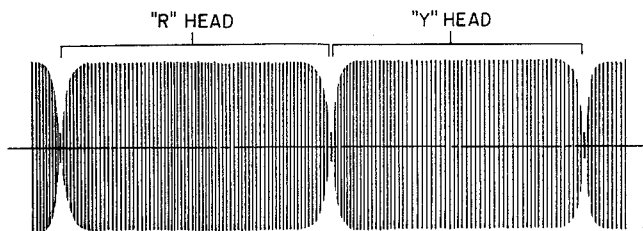

Fig. 1-22 Ideal RF Envelope (Correct Equalization)
(3) Adjusting the Head Assembly for Interchange
- c) Try to maintain an almost square shaped amplitude on R.F. Envelope as shown in fig. 1-22.